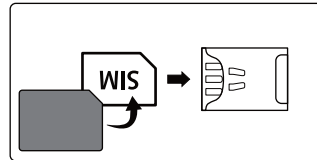

Fig. 33
1. Viewing the back of the GSM module place the nano SIM on the SIM icon (the icon is upside down), with the SIM contacts facing down and following the SIM orientation, as shown in **Fig.33**.